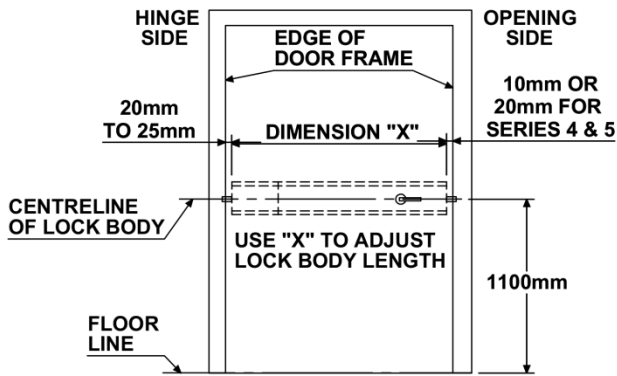

FIGURE 1
3. Mark centreline of lock across inside of door at desired height (nominally 1100mm from floor). (Fig. 1)
4. Mark position for end of lock (with door closed) on opening side 10mm from edge of door (20mm for Series 4 & 5 Locks). (Fig. 1)
5. Mark position for end of Lock (with door closed) on hinge side 20-25mm from edge of door. (Fig. 1)